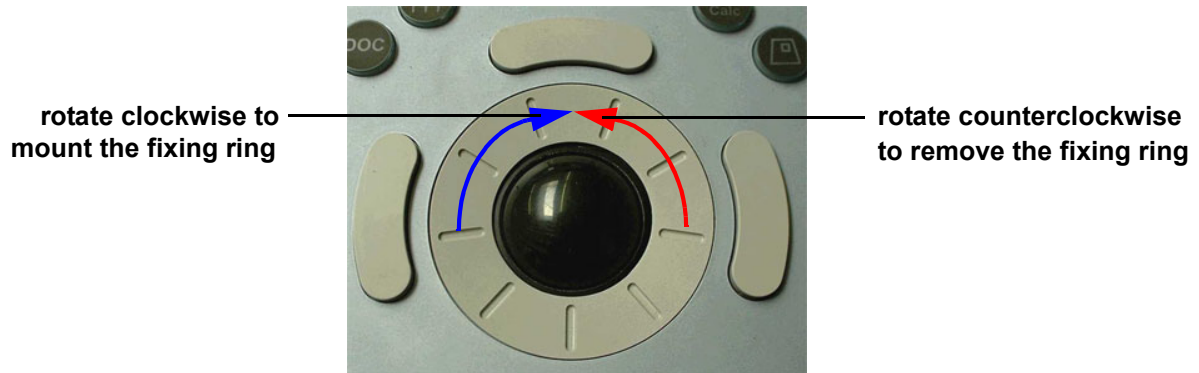

Figure 6-4 Trackball with fixing ring
- 3.) Mount the outer fixing ring by turning it clockwise. see Figure 6-4